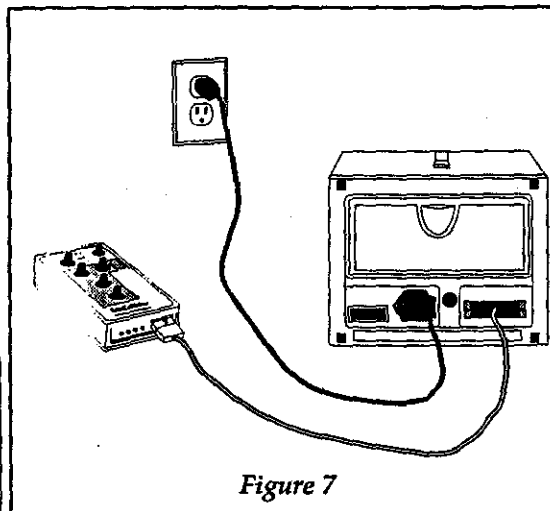

Figure 7
- Step 1** With the power to the BiPAP S/T-D 30 System turned off, use the BiPAP S/T-D 30/Remote Cable to connect the DCP 30 to the BiPAP S/T-D 30 System. When connecting the cable to the unit, make sure the cable is securely screwed into place. (NOTE: To disconnect the cable from the unit, unscrew the pins on the sides of the cable and pull.) See Figure 7.